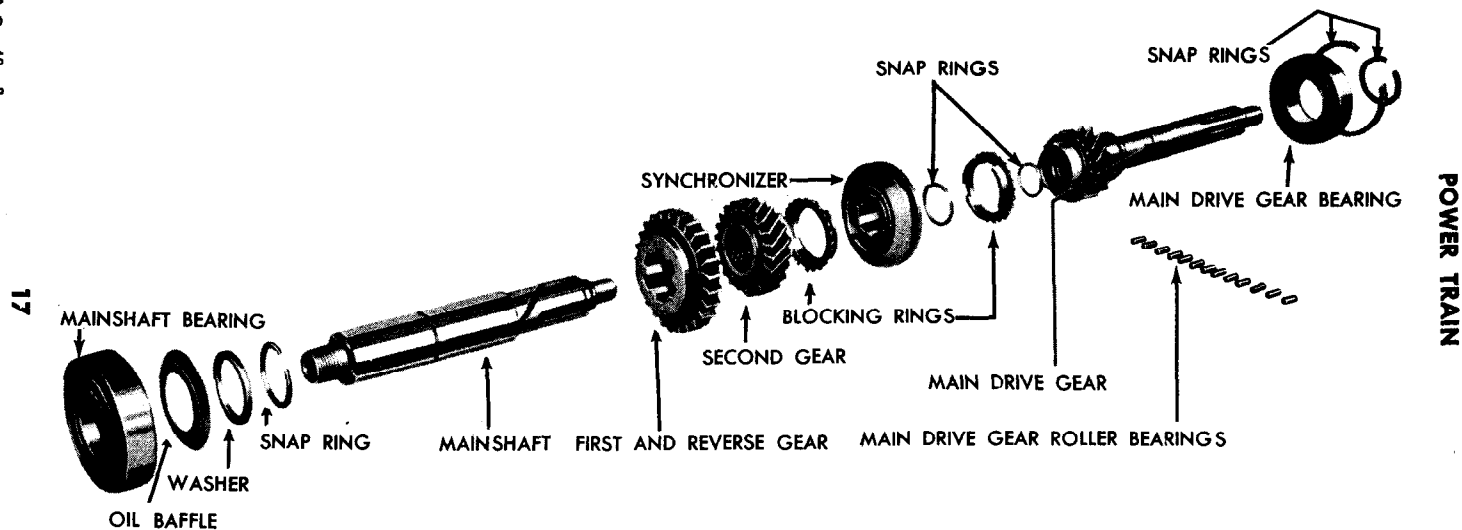

Figure 13 — Mainshaft Assembly — Exploded View
i. **Disassemble Main Drive Gear (fig. 13).** Remove the snap ring and the 13 rollers from the main drive gear.
j. **Disassemble Synchronizer (fig. 13).** Slide the synchronizer sleeve off the synchronizer hub and remove the two lock rings.
(2) **MAIN DRIVE GEAR ASSEMBLY** (fig. 13). Replace the main drive gear (clutch shaft) if the following conditions are apparent: Broken teeth or excessive wear; pitted or twisted shaft; discolored bearing surfaces due to overheating. Small nicks can be honed and then polished with a fine stone. Measure the roller bearing recess in the gear end of the shaft. If more than 0.974 inch, replace the main drive gear. Measure the pilot end of the shaft. If it is less than 0.595 inch at the pilot end, replace the main drive gear.
(3) **MAINSHAFT** (fig. 13). A mainshaft excessively worn, or with pitted or discolored bearing surfaces due to overheating, must be replaced. Measure the diameter of the pilot end of the shaft and the diameter of the second speed gear bearing surface. If they are less than 0.595 inch at the pilot end, or less than 1.126 inches at the
(4) **FIRST AND REVERSE GEAR** (fig. 13). A first and reverse gear with excessively worn teeth or splines, or with broken or chipped teeth must be replaced. Slide the gear onto the mainshaft. If the backlash between the gear and the shaft exceeds 0.005 inch, either the gear or the shaft, or both, must be replaced. A gear with small nicks can be honed and then polished with a fine stone.
(5) SECOND GEAR (fig. 13).
(9) **SYNCHRONIZER** (fig. 13). Blocking rings with worn, broken, or nicked teeth, must be discarded. Hubs with excessively worn splines must be replaced. Sleeves with broken, nicked, or worn teeth, or excessively worn splines, must be replaced.
(10) **MAIN DRIVE GEAR BEARING ROLLERS** (fig. 13). Needle bearing rollers with flat spots, pitted, or discolored surfaces must be replaced. Measure the diameter of each roller. If less than 0.187 inch, the rollers must be replaced.
(11) **BALL BEARINGS** (fig. 13). Ball bearings with loose or discolored balls, or with pitted or cracked races must be replaced.
c. **Install Mainshaft Assembly** (fig. 13). Insert the mainshaft in the case through the opening in the rear of the case. Slide the first and reverse gear onto the shaft, with the shifter fork channel toward the rear. Slide the second gear onto the mainshaft with the tapered end of the gear toward the front. Install a blocking ring onto the second gear. Slide the synchronizer onto the mainshaft with the long end of the hub toward the front and install the snap ring.
d. **Install Main Drive Gear Assembly** (fig. 13). Place the other blocking ring in the synchronizer and install the main drive gear assembly in the case.
a. **Install Transmission to Transfer Case.** Place the transmission in position on the transfer case. Be sure the interlock plunger (fig. 4) is in position between the two shifter shafts on the transmission. Install the bolts that secure the transmission to the transfer case. Slide the oil baffle and mainshaft gear on the transmission mainshaft through the rear cover opening on the transfer case. (The oil baffle was not supplied on vehicles of early manufacture. If grease is found to have been leaking from the transfer case into the transmission on vehicles without this baffle, reverse the rear mainshaft bearing (fig. 13) so that the open side of the bearing faces the front of the transmission. Leave the oil baffle in front of the bearing in its original position. Install another oil baffle at the rear of the bearing.) Install the flat washer and nut that secure the mainshaft gear to the transmission mainshaft. Install a new gasket and the rear cover on the transfer case (fig. 27).